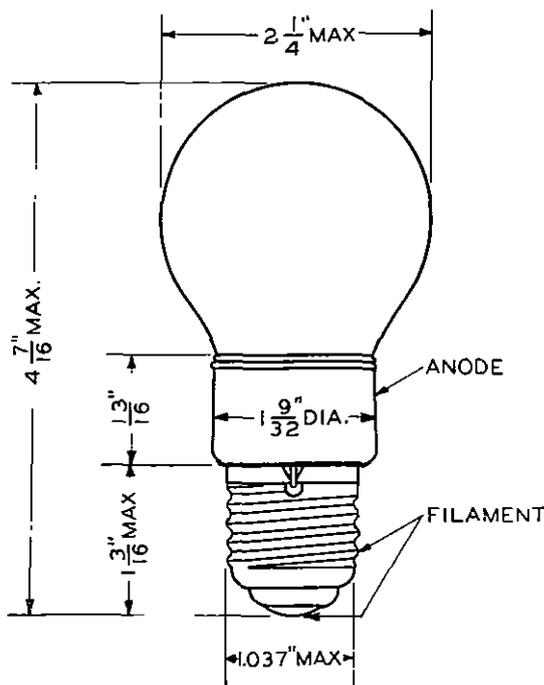

FIG. 1
**Dimensions—**The dimensions and outline diagram are given in Figure 1. The overall dimensions are:
**Mounting—**This tube employs a 3 connection, skirted medium screw base. Overall dimensions are shown in Figure 1.